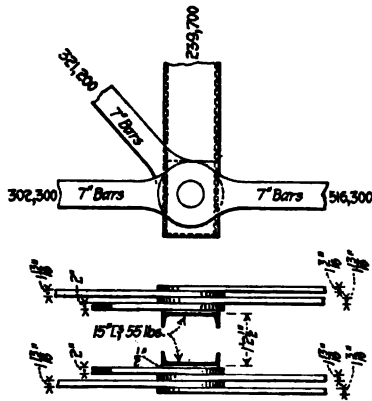

FIG. 2
2. Calculate size of pin necessary for the connection shown in Fig. 2, assuming that 20 000 lb. per sq. in. are allowed in bending and 15 000 lb. per sq. in. in shear. Give details of calculation. Graphical method may be used.
2. In plate girder, Fig. 2, find spacing of rivets for a distance of 4 ft. from end "A"; also spacing of rivets between points X and Y. Allow 3 500 lb. bearing and 3 000 lb. for single shear per rivet.